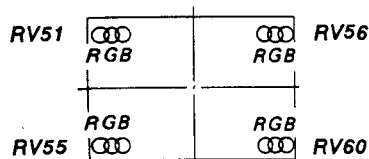

Fig. 1-24
- Adjust RV51, RV55 and RV56, RV60 on the DB board coincide with the R, G and B dots as shown in Fig. 1-24.